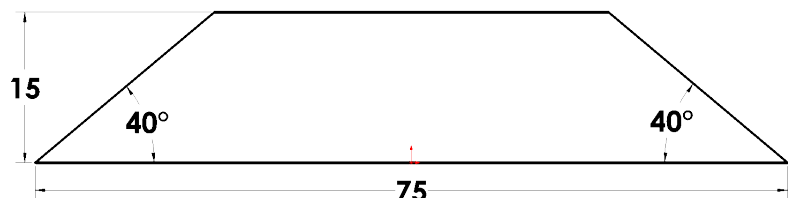

Fig. 4
Step 7. Click **Smart Dimension**  (S) on the Sketch toolbar.
Step 8. Add dimensions, **Fig. 4**.